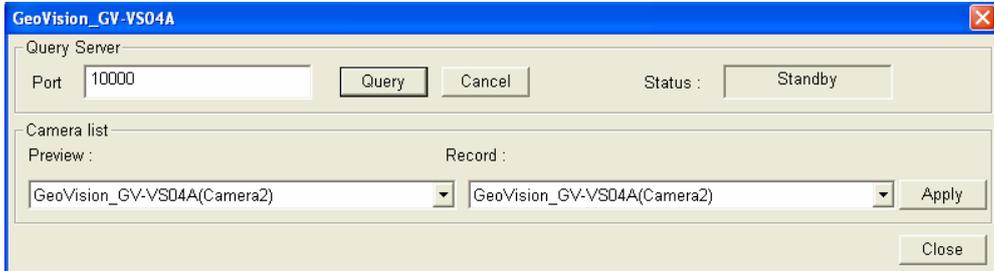

Figure 7-3
**Note:** If the GV-Video Server is not being detected, modify the HTTP port (Figure 7-3) and streaming port (Figure 7-4 or Figure 7-5) to match those of the IP camera, and click the **Query** button to detect the IP camera again.